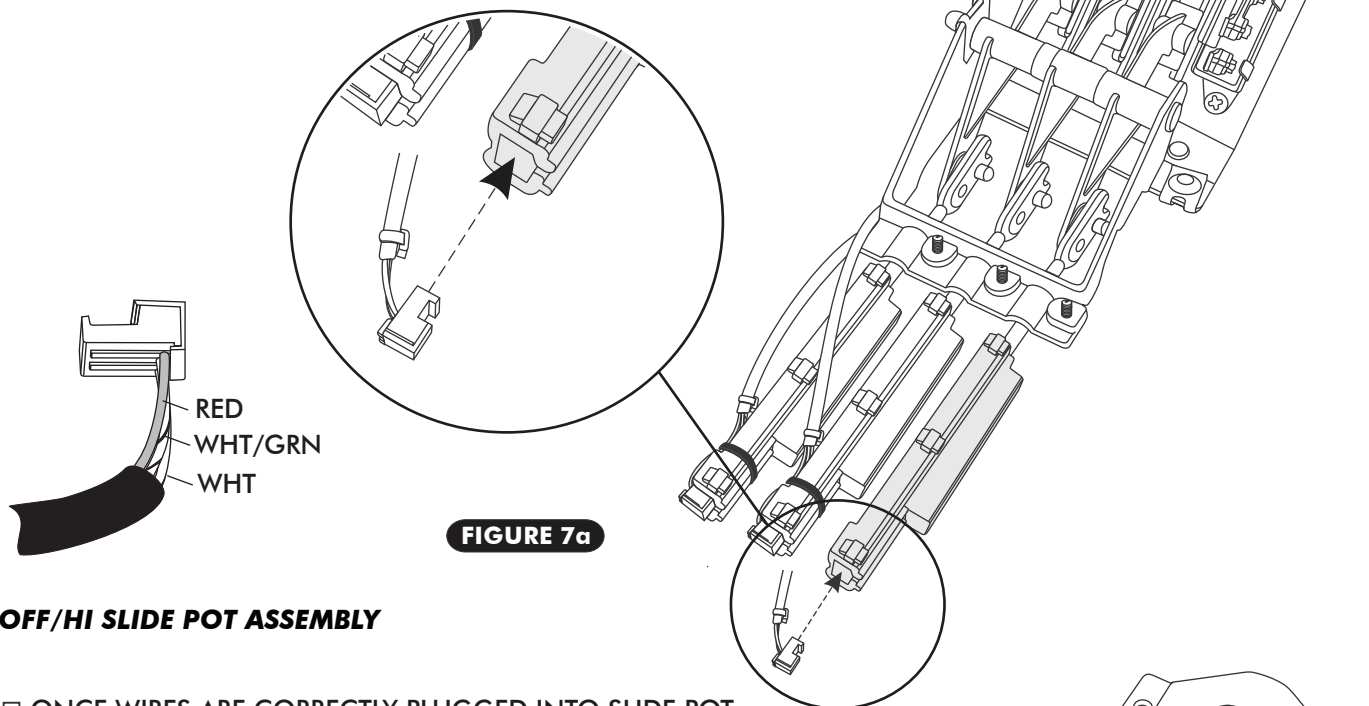

FIGURE 7a
- LOCATE THE CONTROL PANEL WIRE HARNESS AND PLUG THE CORRESPONDING WIRES INTO THE CORRECT SLIDE POT ASSEMBLY AS SHOWN IN FIGURE 7a, BELOW.